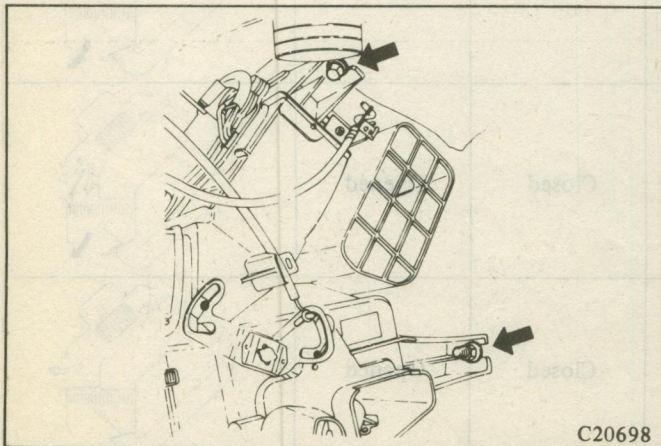

Fig. 4 Removing the Heater Assembly
- (1) Disconnect the battery ground (–) terminal.
- (2) Place the hot water flow control lever in OFF position.
- (3) Drain coolant.
- (4) Remove the parcel tray, the center ventilator grille and duct, and the defroster duct.
- (5) Disconnect all control cables at the heater side.
- (6) Disconnect water hose.
- (7) Disconnect harness from the heater fan motor.
- (8) Remove the top mounting bolts and center mounting nuts and remove the heater assembly. (Fig. 4)